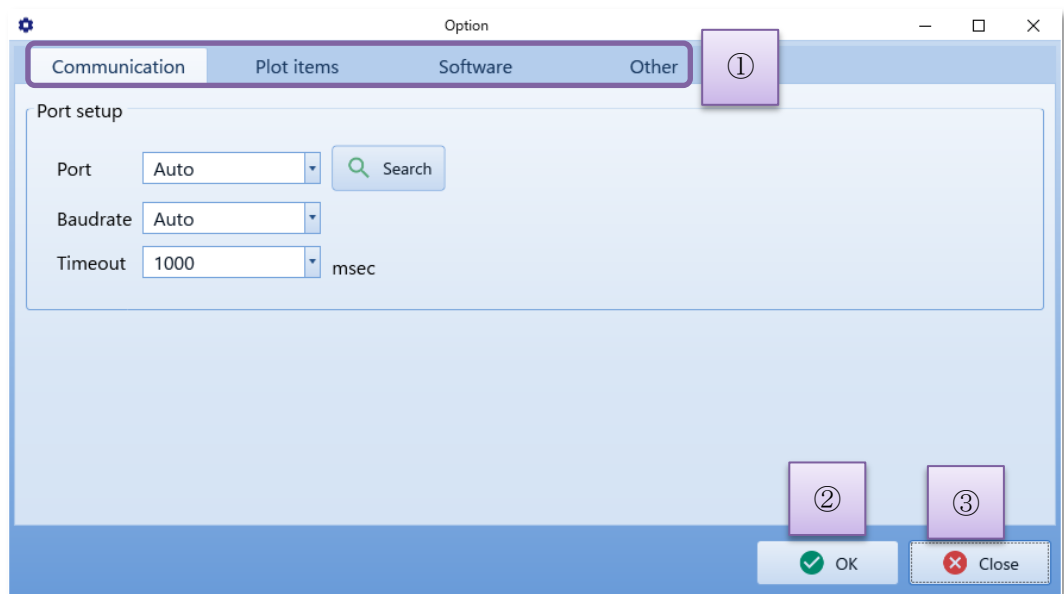

Figure 7.1 Option window
- (1) Launch the software.
- (2) Displays “Option” window by choosing [Tools > Option]. (Figure 7.1/ Table 7.1)